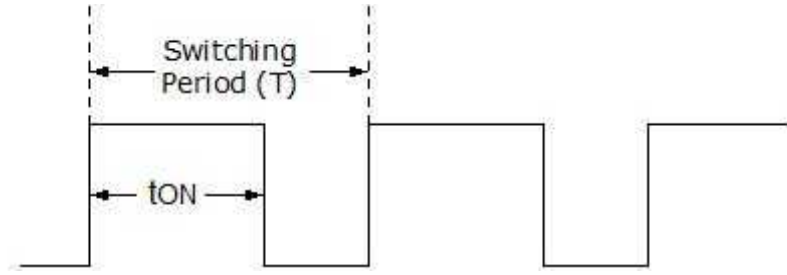

Figure 4. Pulse width modulated (PWM) Signal
Output voltage of a boost converter is controlled by a pulse width modulated (PWM) signal shown in figure 4. The duty cycle is the ratio between the on time and the switching period shown in (1). By adjusting the duty cycle, we can obtain desired output voltage, which is shown in (2). When D increases, the output voltage increases. When D decreases, the output voltage decreases.